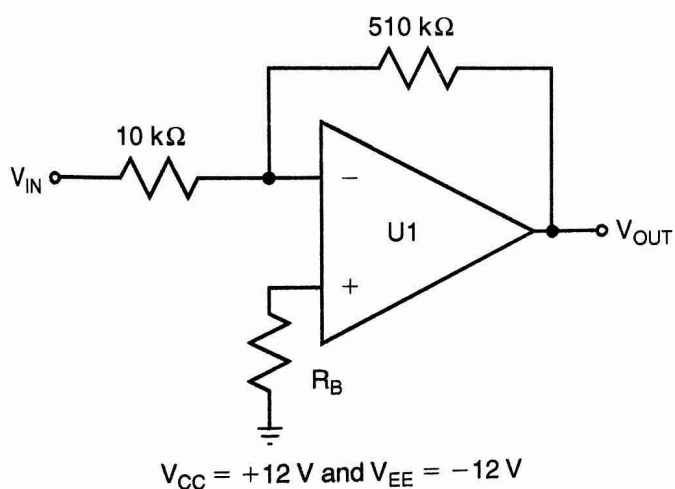

FIGURE 4-45 Op-amp circuit for Problems 1–3
1. Calculate the closed-loop gain and output voltage of the inverting op-amp circuit in Figure 4-45.
3. Calculate R_B in Figure 4-45.